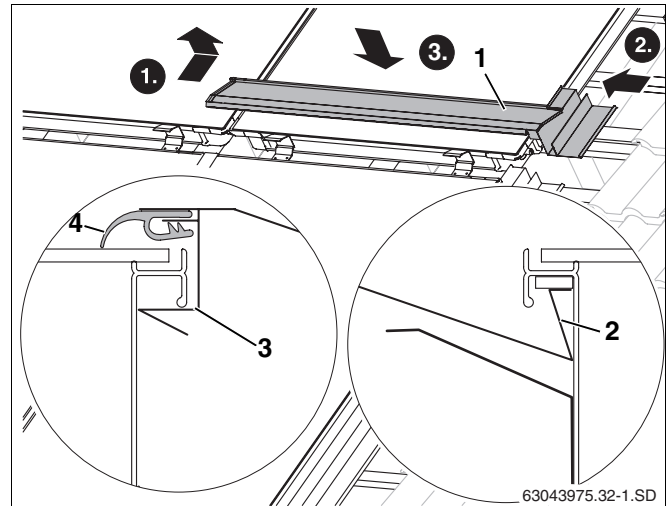

Fig. 52 Inserting first middle facing panel
- ▶ Insert the upward fold on the facing panel (Fig. 52, **Item 2**) into the recessed grip on the collector frame.
- ▶ Feed facing panel (Fig. 52, **Item 1**) towards the collector and into the side facing panel on the right.
- ▶ By applying pressure to the top of the facing panel, it clicks under the recessed channel on the collector frame (Fig. 52, **Item 3**).
- ▶ Place the rubber lip (Fig. 52, **Item 4**) on top of the collector.